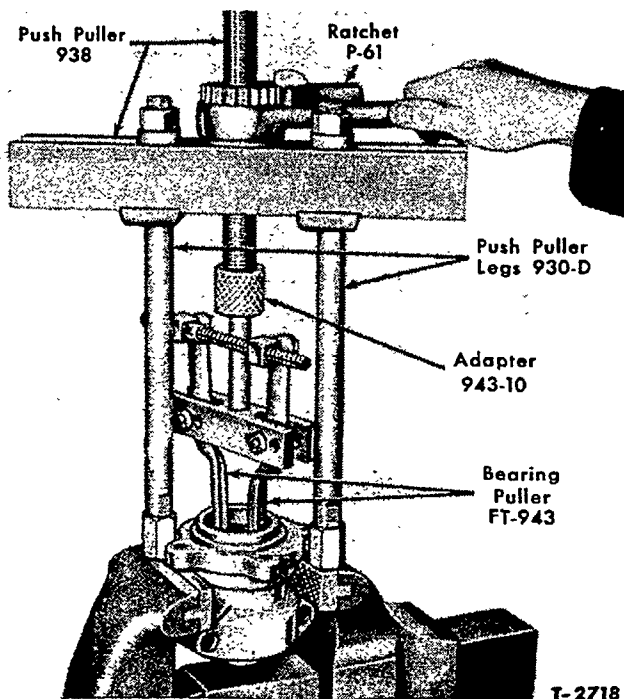
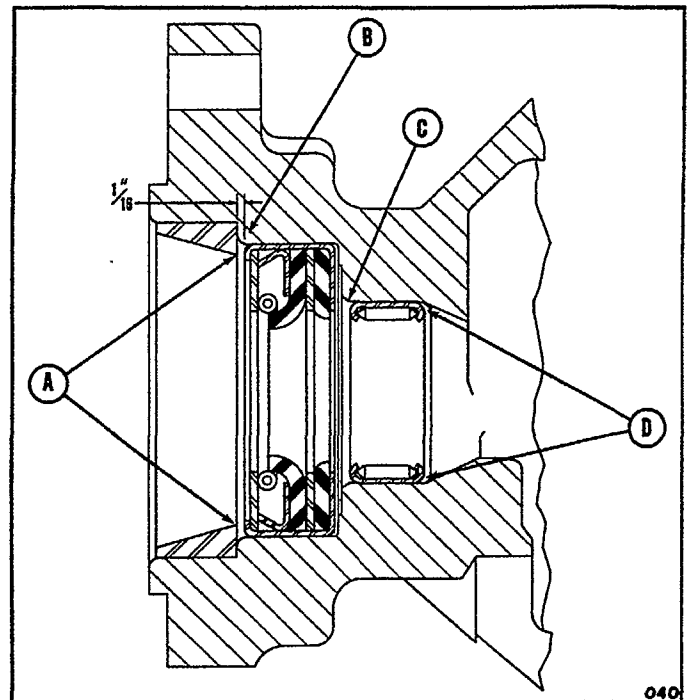
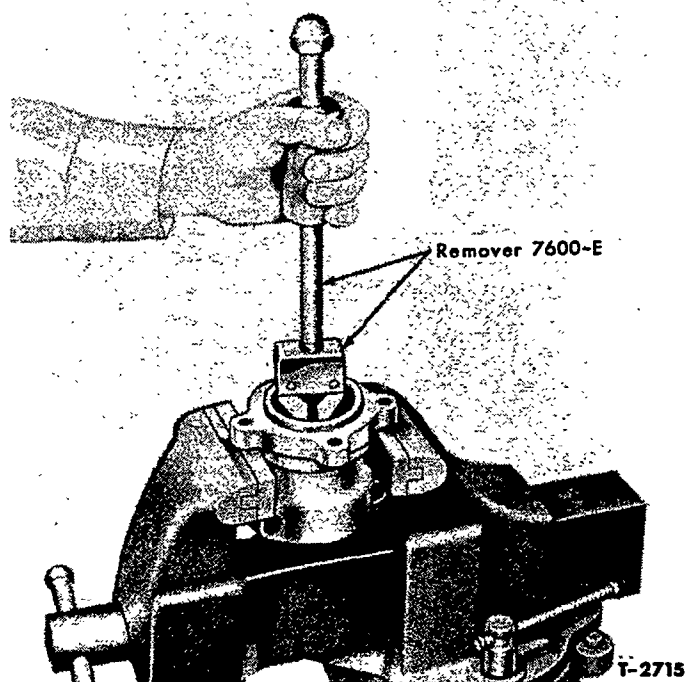

Figure 27—Removing Bearing Cup
Figure 28—Bearing Cup, Seal and Needle Bearing Installation
Figure 29—Removing Seal and Needle Bearing
3. Place the housing in a vise, as shown in Figure 27, and drive the seal down far enough to allow the jaws of Bearing Puller FT-943 to be placed under the bearing cup at "A", in Figure 28.
4. Connect Push Puller FT-938 to Bearing Puller FT-943 as shown in Figure 27 and remove the cup.
5. Remove the seal and needle bearing together by inserting the jaws of Pilot Bearing Remover 7600-E, Figure 29, through the seal and bearing to pull at "D", Figure 28.
2. Install the needle bearing in the gear housing with a socket large enough so that the I.D. seats on the outside top edge of the bearing. Drive the bearing in until the top of the bearing is flush with the step in the housing, then use a slightly smaller socket and drive the bearing until it is flush with the bottom of the chamber in the bore, as shown at "C" in Figure 28.
from Set 630-S that contacts the outer circumference of the seal. The seal should be positioned $\frac{1}{16}$ " below the bottom of the bearing cup seat, as shown at "B" in Figure 28. It is important that the $\frac{1}{16}$ " measurement not be exceeded as the seal could be crushed and its effectiveness destroyed.